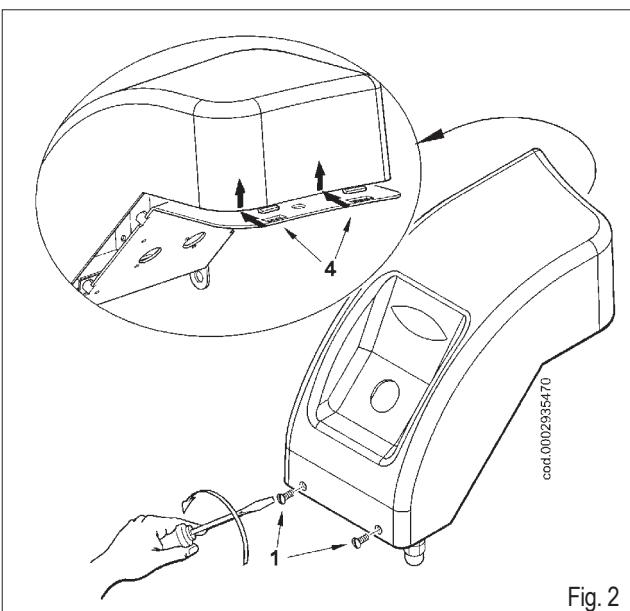

Fig. 2
- Now remove the 4 nuts (7) in figure 2, disassemble the flame pipe (8) from the relative stud bolts, reposition them with the threaded connection for fixing the gas train upwards.
- To reach the electrical components, loosen the two screws (1), gently pull back the cover to detach it from the electrical panel base (fig. 2) then lift it up.